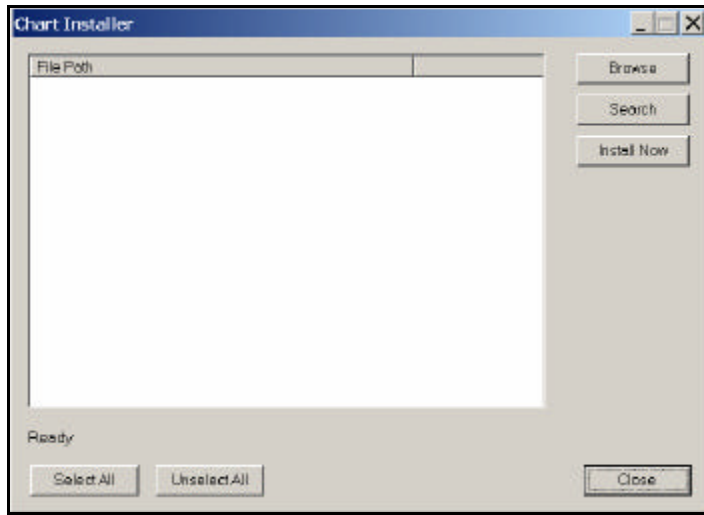

Figure 4-3. Chart Installer Screen 1
4. Click **Install New Charts**. Chart Installer screen 1 is displayed (Figure 4-3).